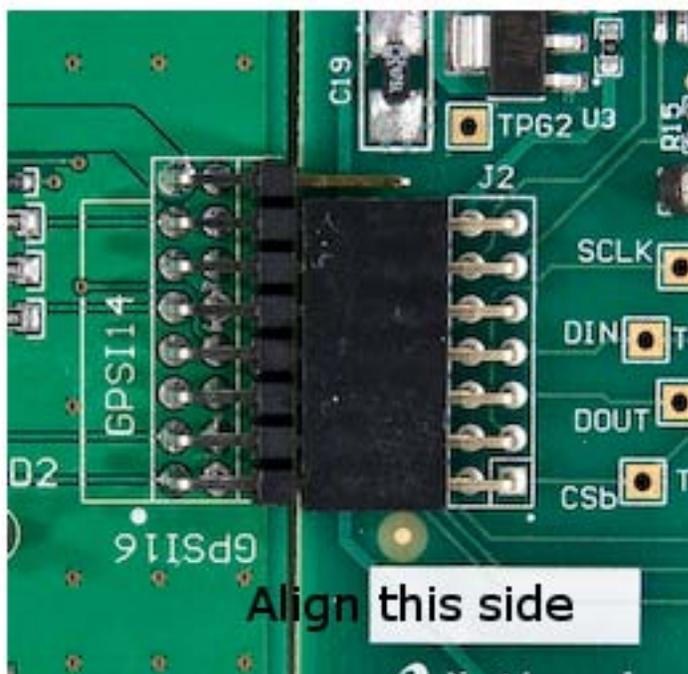

Figure 2: DAC161S055 Eval board connected to SPUSI board.
- Connect the SPUSI2 board to the DAC161S055 evaluation board. Ensure that you line up the SPUSI2 board with the GPSI14 pins as shown on the board (see Figure 2). Note that one set of pins will not match the header.